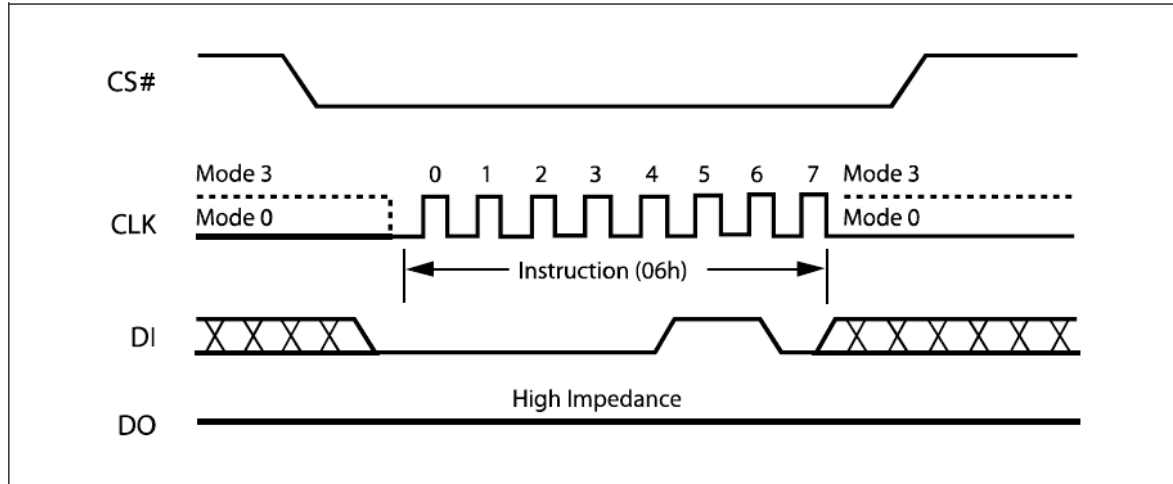

Figure 8. Write Enable Instruction Sequence Diagram
The Write Enable (WREN) instruction (Figure 8) sets the Write Enable Latch (WEL) bit. The Write Enable Latch (WEL) bit must be set prior to every Page Program (PP), Quad Input Page Program (QPP), Sector Erase (SE), Half Block Erase (HBE), Block Erase (BE), Chip Erase (CE) and Write Status Register (WRSR/WRSR3) instruction.